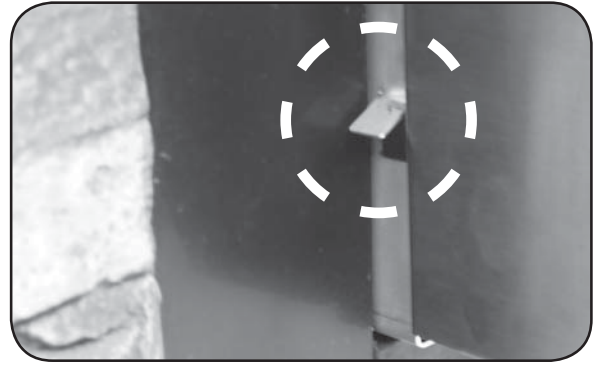
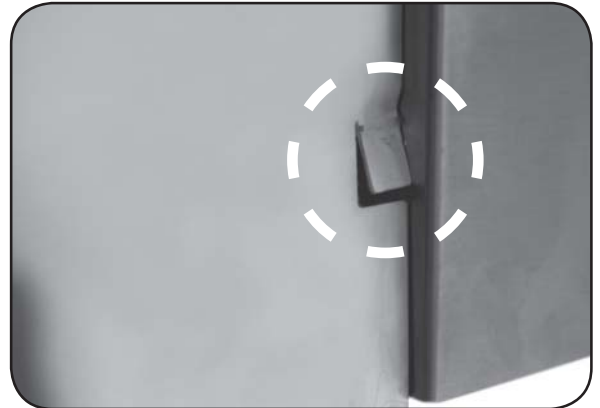

Fig. 17-1 Tab may interfere when sliding in unit
Fig. 17-2 Tab slightly bent in for clearance
**Note:** Each side of the unit has a tab just behind the control panel. These tabs prevent the control panel from moving inward. If the tabs interfere with the unit sliding in (see Fig. 17-1), use pliers to bend them inward so that they clear the enclosure sides. Leave the tabs slightly out to ensure they still keep the control panel from moving inward (see Fig. 17-2).